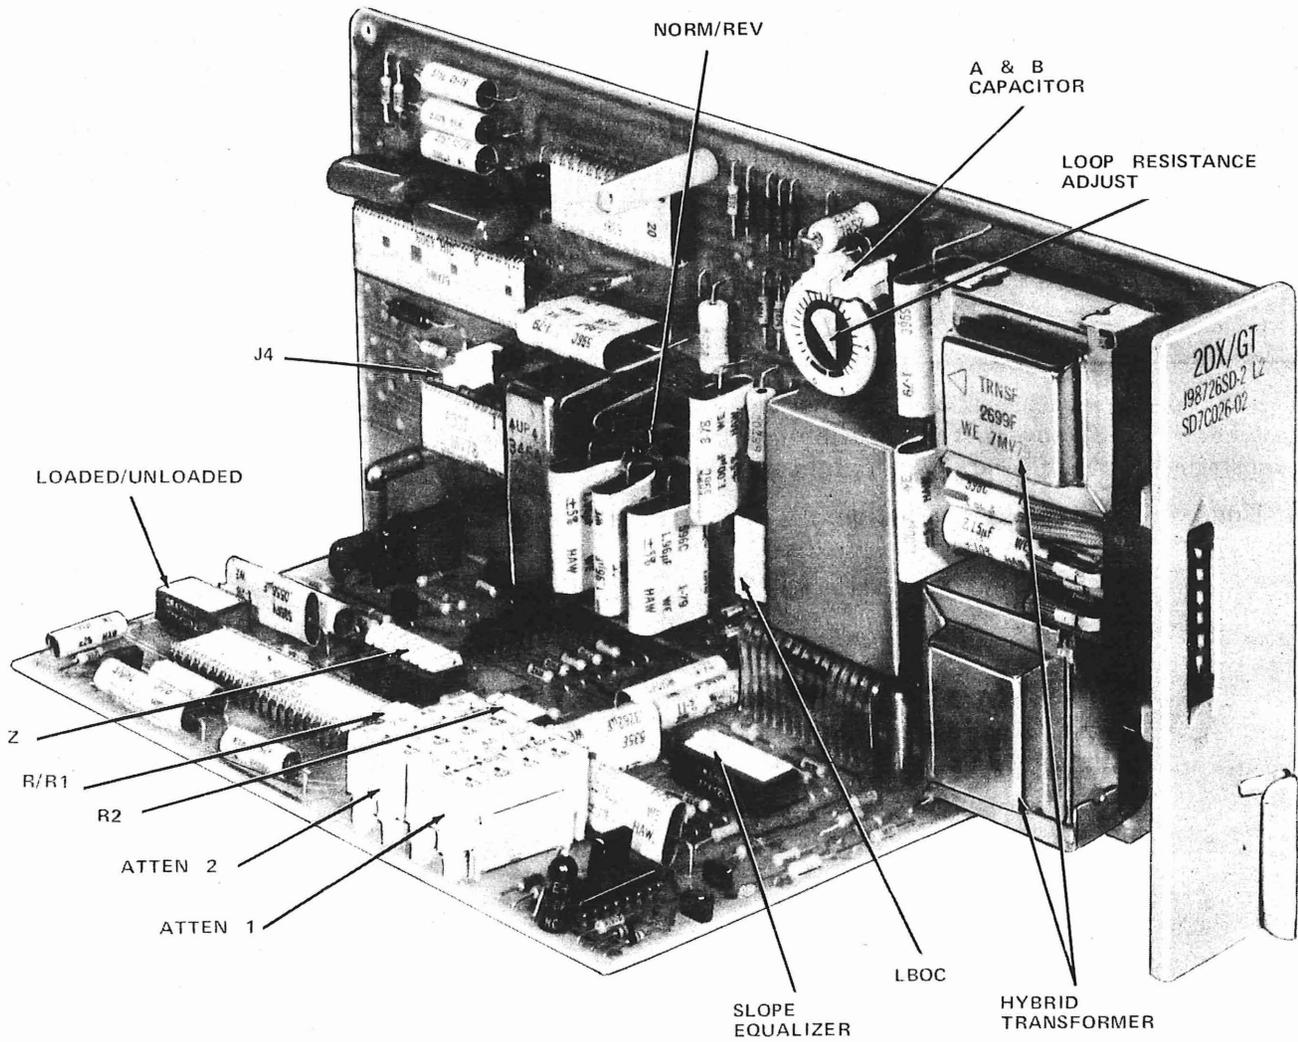

Fig. 1—2-Wire Duplex With Gain Transfer
1.01 This section provides a detailed description of the 2-wire and 4-wire duplex signaling units used in the D4 channel banks. The 2-wire duplex signaling (2DX/GT) channel unit is shown in Fig. 1. The J, SD, and ED drawing numbers are shown in Table A.